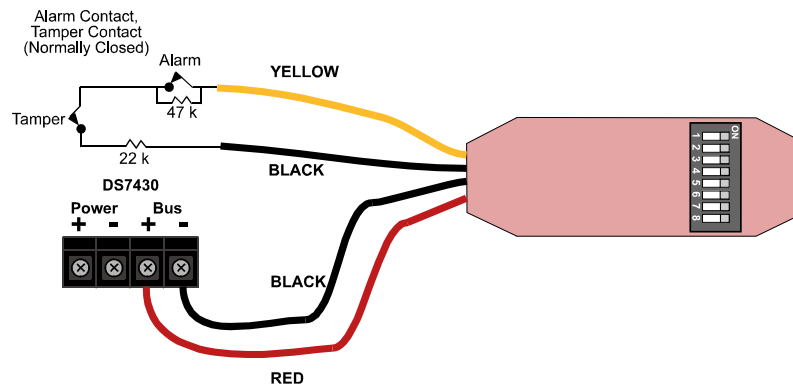

Figure 1: Wiring to a DS7430 Multiplex Expansion Module
- Connect wiring to the DS7457iE as shown in Figures 1 and 2.